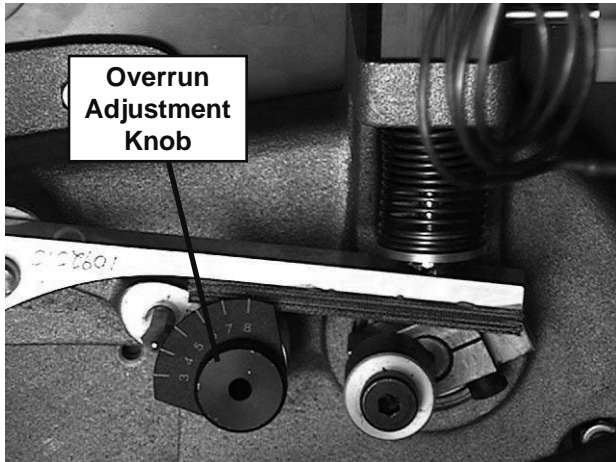

Figure 4-2 Overrun Adjustment
- C. On the air compressor side of the pump, locate the long/slender piston rocking arm. The rocking arm downward travel is limited by a stationary cam. On the face of the cam there is an overrun setting indicator plate numbered 3 through 8 and an adjustment knob (Fig. 4-2).